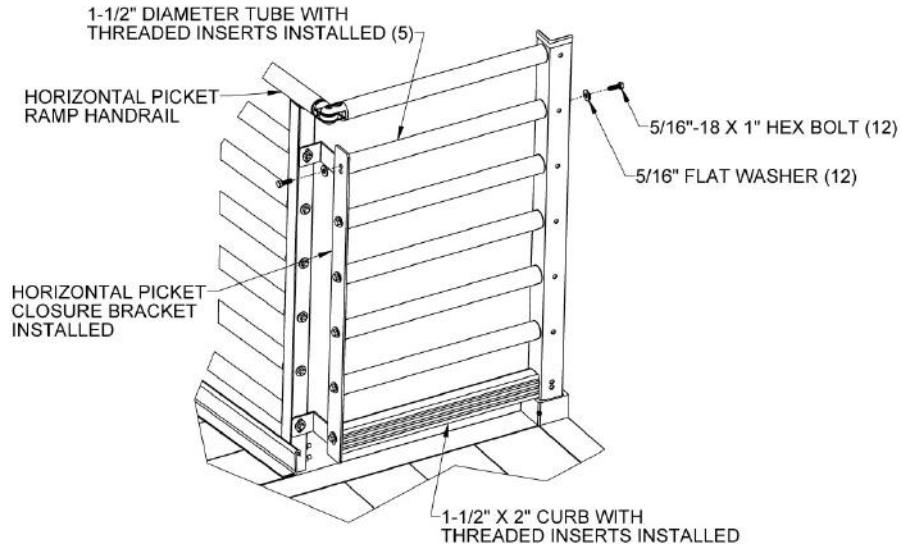

FIG. 5.20
- 5.6.12. Attach the tube with threaded inserts installed to the platform handrail post and the horizontal picket closure bracket using 5/16"-18 x 1" long hex bolts and 5/16" flat washers but do not tighten fully (FIG. 5.20).